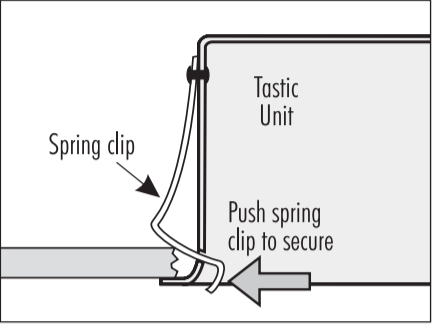

Fig. 16
3. To secure the unit in position, push lower ends of springs apart (Fig 16.). Ceiling board thickness should be adjusted to enable springs to be fitted without excessive force.
7. To secure the unit in position, push lower ends of springs apart (Fig 16.). Ceiling board thickness should be adjusted to enable springs to be fitted without excessive force.